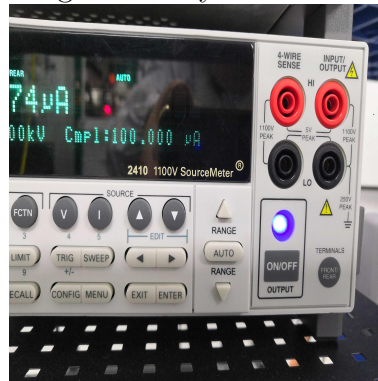

Figure 2: Rear term on SourceMeter
2. SourceMeter with ON at the Terminal of REAR, then the LCR meter (in order). (Fig.2)